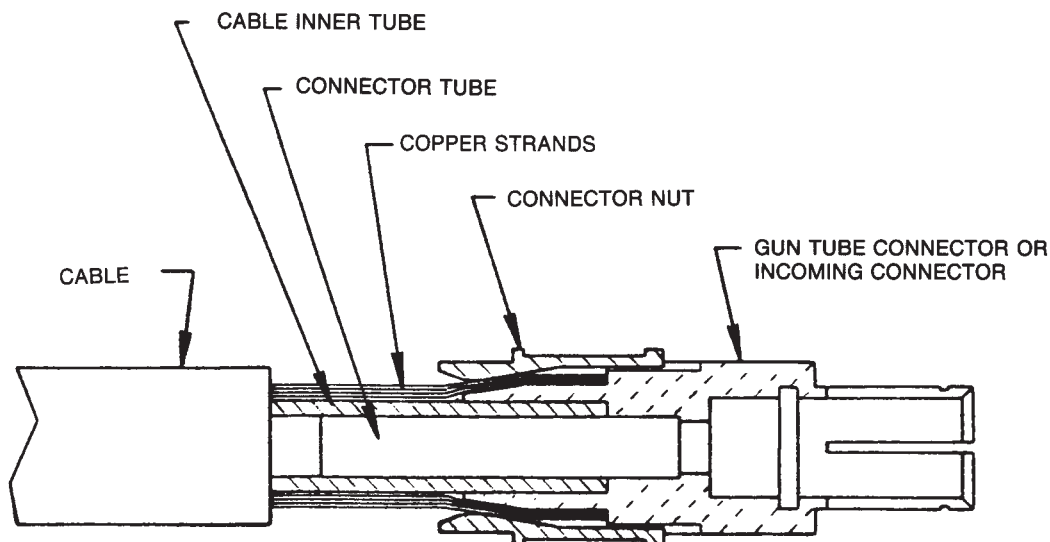

Figure 3
over the copper strands with the thread end out. Orient gun tube connector so machined flat is on the same side of the cable as the red and white control leads. Assemble gun tube connector to cable by forcing the steel tube of the connector into the inside diameter of the cable inner tube until the copper strands are butted against the gun tube connector shoulder. Keeping the copper strands against the shoulder, pull the connector nut over the copper strands, engage the gun tube connector threads, and tighten in place. Refer to Figure 3.
- f. Check that the cable boot and cable handle are on the cable. Slip the connector nut over the copper strands with the threaded end out. Assemble incoming connector to cable by forcing the steel tube of the connector into the inside diameter of the cable inner tube until the copper strands are butted against the incoming connector shoulder. Keeping the copper strands against the shoulder, pull the connector nut over the copper strands, engage the incoming connector threads, and tighten in place. Refer to Figure 3.